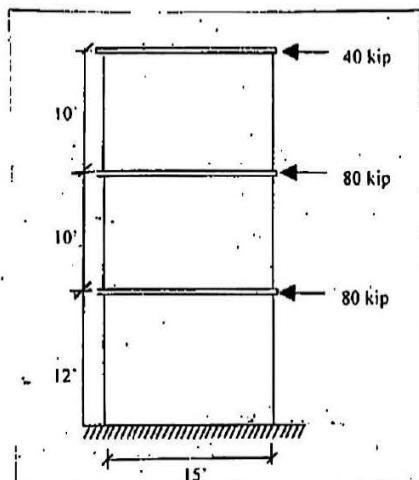

Fig. 3
5. (a) A three storied reinforced concrete wall is subjected to factored lateral loads as shown in Fig. 3. The wall is 15 ft long and 10" thick. Design reinforcement for the wall at the first level between the base and the first floor. Given: $f'_c = 4000$ psi and $f_y = 60000$ psi. (19)